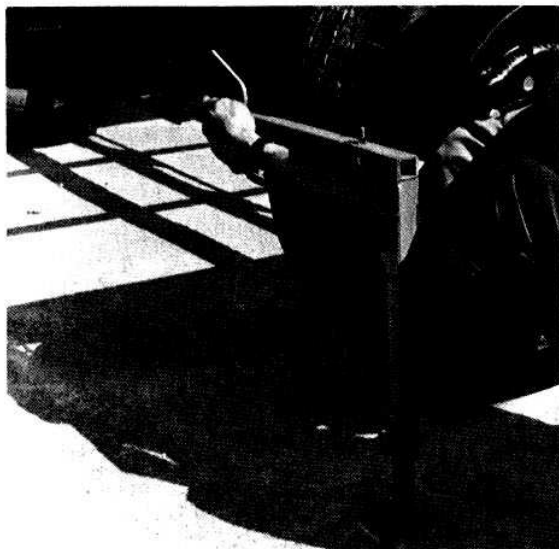
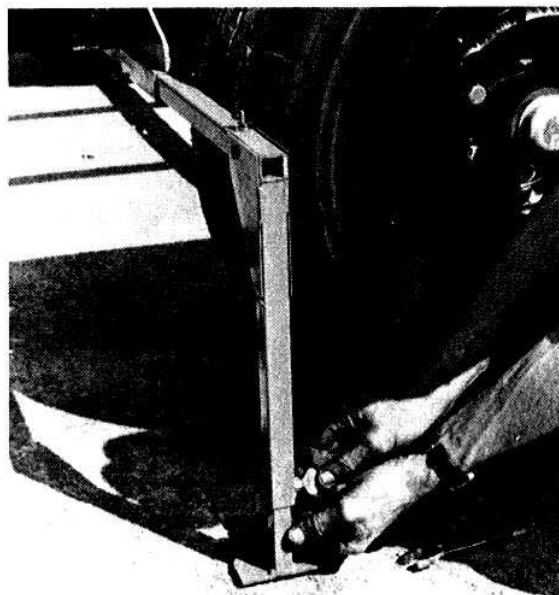

Fig. 15
Fig. 16
5. Install the rear position of the alignment gauge under the trailer (See Fig. 15) and behind the rear wheels. The gauge cross bar should be up against the underside of the main frame members, and just touching the rear wheel tires. The fixed upright flange on the gauge cross bar should be against the outer surface of the roadside main frame member, and the moveable flange adjusted to come up against the corresponding surface on the curbside frame member. Adjust the height of the gauge support legs as necessary to keep the gauge in position. (See Fig. 16).